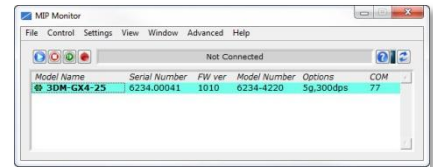

Figure 2: Device pane
2. The software will automatically search for the 3DM-GX4-25™ and display it in the Device pane. The Model Name, Serial Number, Firmware Version, Model Number, Options and COM port will be displayed as shown in Figure 2.